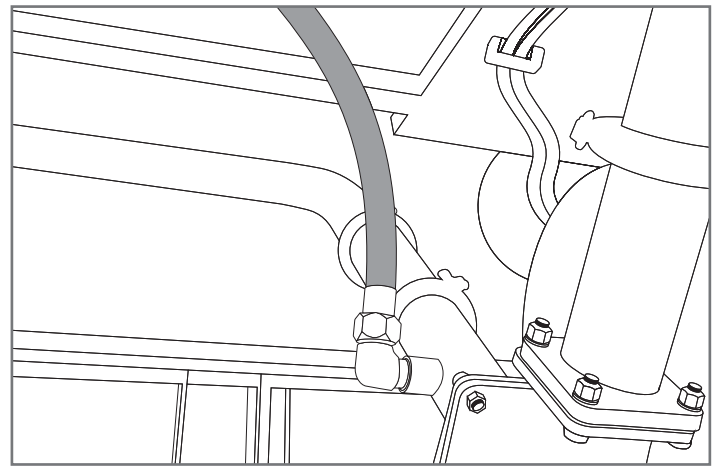

Figure 7. Coolant discharge port installed in non-turbocharged (supercharged) engine. Discharge port is located at radiator Y-pipe.
NOTE: To ensure even heat distribution, the coolant return line may be split and routed to two return ports. Size both return lines per the outlet of the heating system. For engines without an aftercooler, typical installation points are along the water line from the radiator to the engine block. See Figure 7.
- If locomotive engine is turbocharged, the coolant return line may be split and routed to two return ports. Size both return lines per the outlet of the heating system. The water discharge flow must be directed to the upper after-cooler tubes on both sides. Fittings must be welded to the tubes at 45° angles to force most coolant toward the locomotive engine and allow some coolant to flow to the turbochargers. See Figure 7.